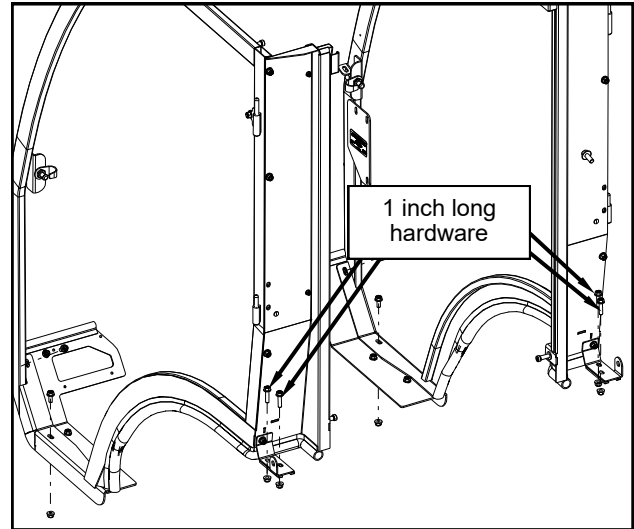

Fig. 6.1 (sideframes onto tractor installation)
6.1 With assistance, place the left sideframe on top of the left floorboard mount and the vehicle's left fender. Fasten the sideframe to the floorboard mount and then to the vehicle's fender (requires the longer hardware). Repeat step for the right sideframe. See fig. 6.1.